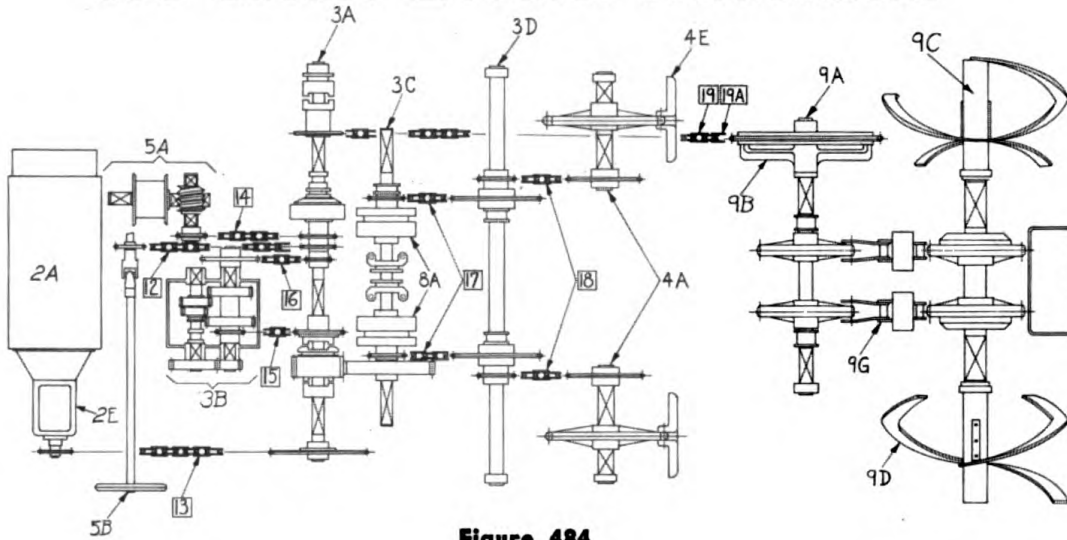
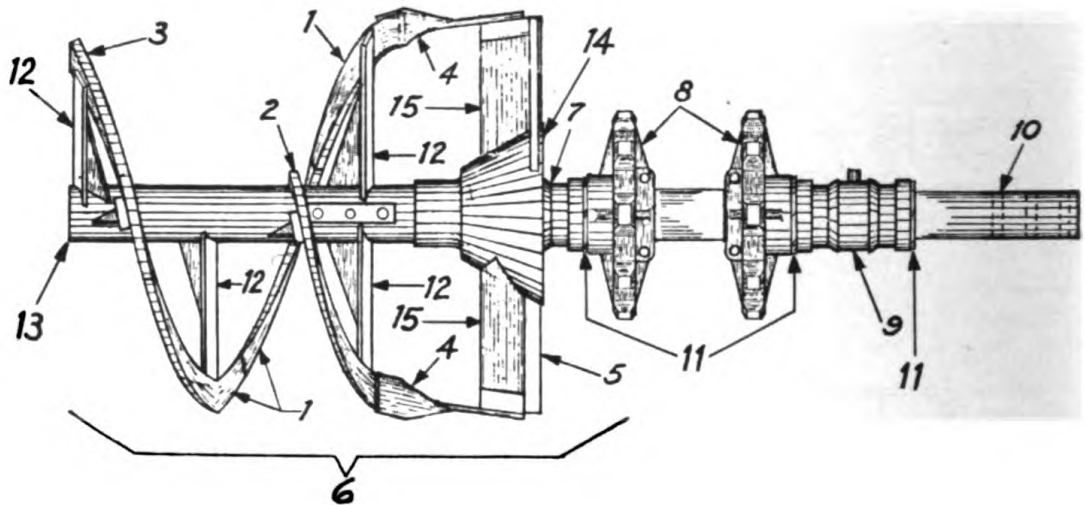

Figure 484
Figure 485
Certain repairs may be made to the Footshaft and Spiral assembly 9C and D, figure 484 without removing the footshaft (10), figure 485.
Any bucket may be removed from the bucket line (9G) figure 484 or any link may be replaced without complete disassembly of the bucket line.